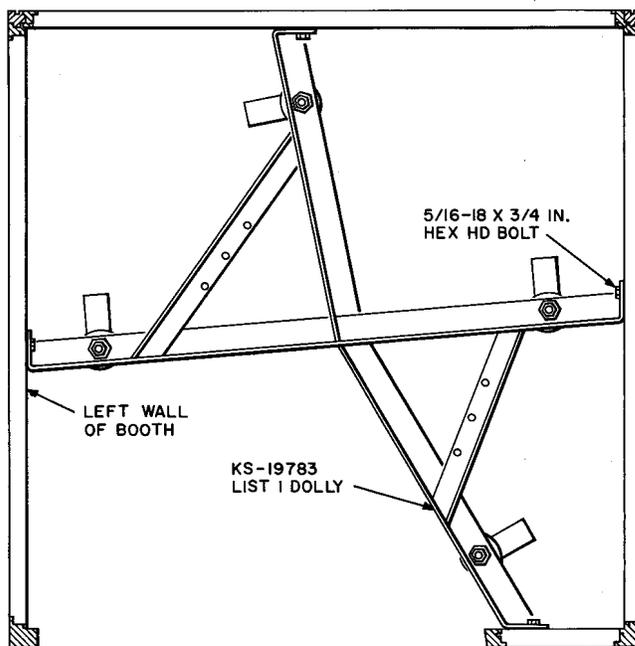

Fig. 8 — KS-19783, List 1 Dolly Installed in Booth
4.07 Install KS-19783, List 1 dolly per Fig. 8 using hardware furnished.